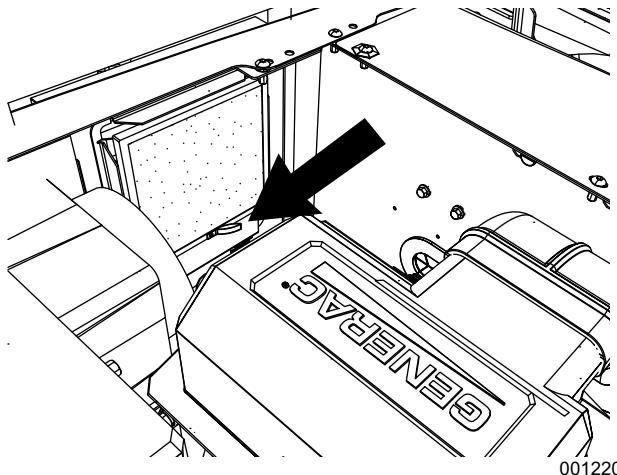

Figure 4-13. Replacing the AVR Filter
- See **Figure 4-13**. Grasp rubber lifting strap and remove filter from filter housing.